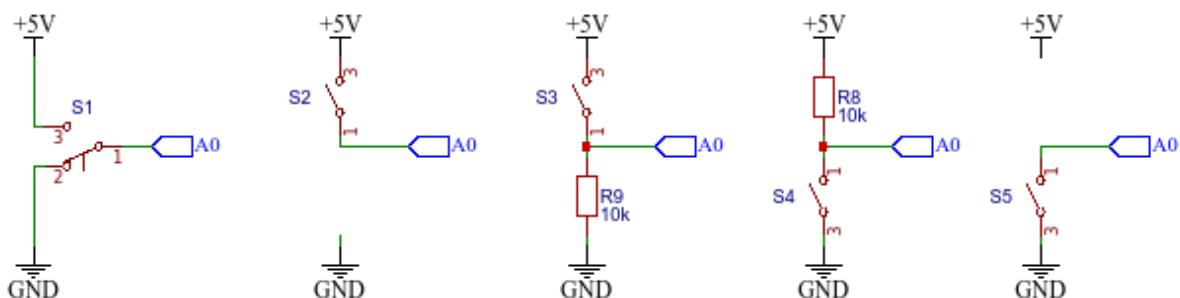

Figure 6.1: Different options of wiring the bush-button-switch.
1. Connect the push-button-switch according to first diagram on fig. 6.1 and test the program prog. example 6.2
2. Try to connect the bush-button-switch according to second diagram on fig. 6.1
Try to understand why this setup is not working. And test all other options in fig. 6.1
3. Solve the problem by constructing a voltage divider with pull-down resistor (third diagram on fig. 6.1).
5. Change the setup of PBSW and resistor to a pull-up setup (fourth diagram on fig. 6.1). What is changed?
6. Enable internal pull-up resistor (and remove external one - fifth diagram on fig. 6.1).